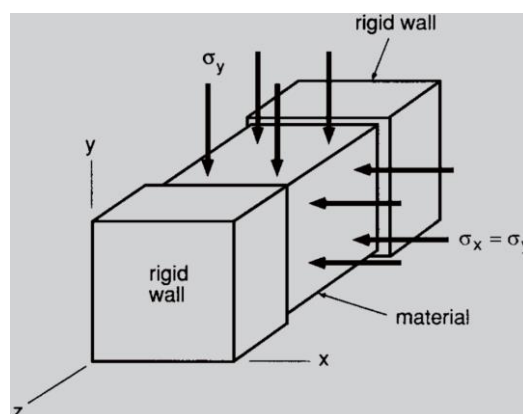

Figure Q2[b]
- [b] A block material is subjected to equal compressive stresses in the x - and y -directions and it is confined by a rigid die so that it cannot deform in the z -direction as shown in Figure Q2[b]. Assume that there is no friction against the die and also that the material behaves in an elastic, perfectly plastic, with yield strength σ_0 .